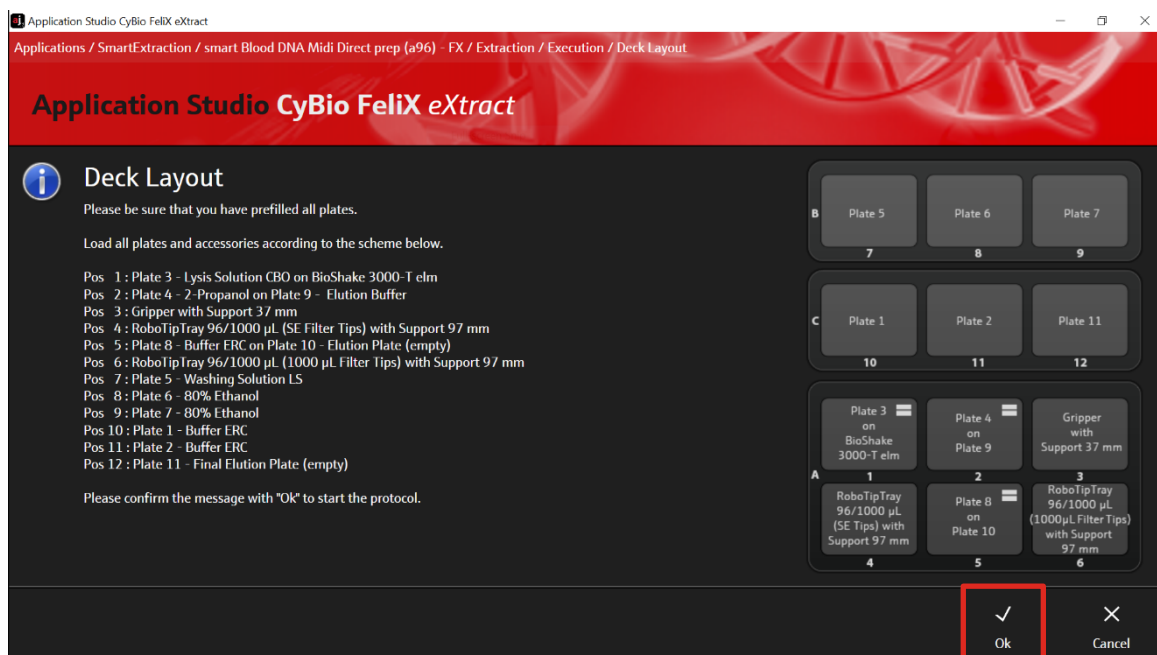

Figure 36: Deck layout for checking the correct positions of all plates and accessories.
9. After selecting "Execute" the deck layout is shown. Check the correct positioning of plates and accessories on the corresponding deck positions and confirm with "Ok" (\rightarrow see Figure 36).